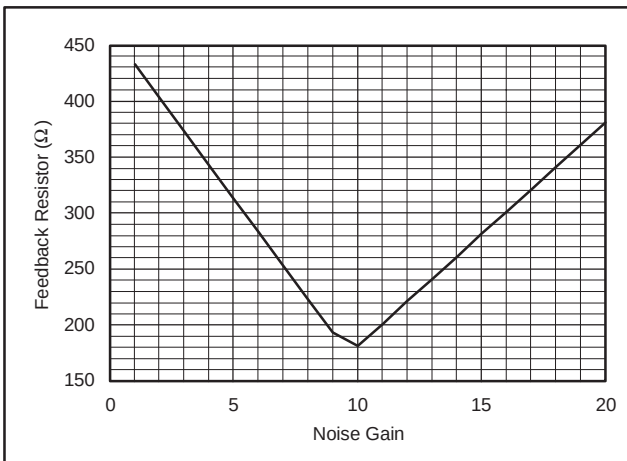

Figure 9. Feedback Resistor vs Noise Gain
As the desired signal gain increases, this equation will eventually predict a negative R_F . A somewhat subjective limit to this adjustment can also be set by holding R_G to a minimum value of 20Ω . Lower values will load both the buffer stage at the input and the output stage, if R_F gets too low, actually decreasing the bandwidth. Figure 9 shows the recommended R_F versus NG for $\pm 5V$ operation. The values for R_F versus gain shown here are approximately equal to the values used to generate the Typical Characteristics. They differ in that the optimized values used in the Typical Characteristics are also correcting for board parasitics not considered in the simplified analysis leading to Equation (2). The values shown in Figure 9 give a good starting point for design where bandwidth optimization is desired.